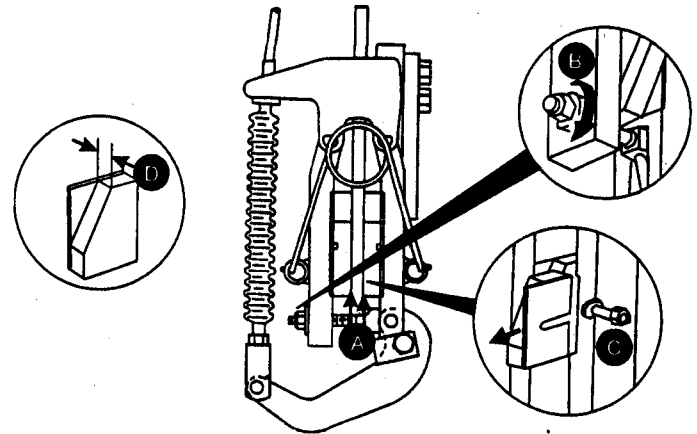

Figure 3.
1. Engage parking brake lever in the cab. Check that the pads just touch the disc, shown in **A**, Figure 3.
1. Loosen adjusting nut (**B**, Figure 3) far enough to remove brake disc pads.